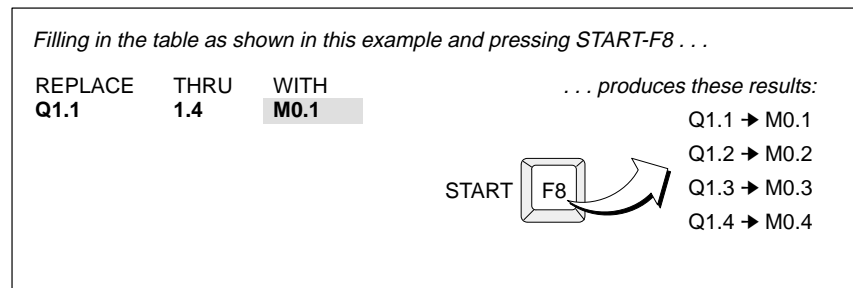

Figure 10-3 Example of Search and Replace Operation
3. Continue by typing in the new element type and starting identifier in the **WITH** field. The range of this element is defined by the range of the **REPLACE** and **THRU** fields. For example, replacing Q1.1 through 1.4 with M0.1 will result in Q1.1 being replaced by M0.1, Q1.2 replaced by M0.2, and so on, as shown in Figure 10-3.